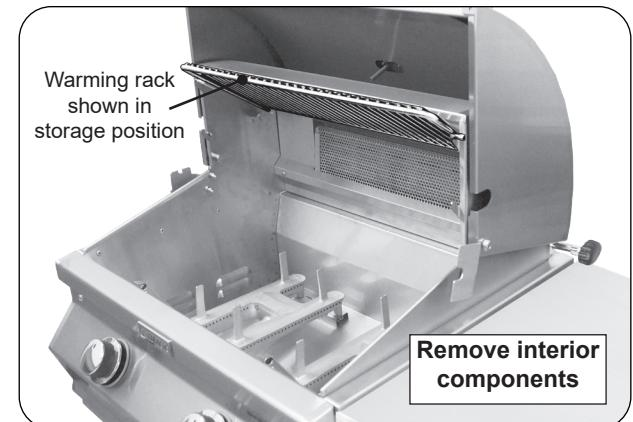

Fig. 38-1 Prepare grill for rotisssing
1. Set the warming rack to storage position, remove the backburner cover and cooking grids (see Fig. 38-1).